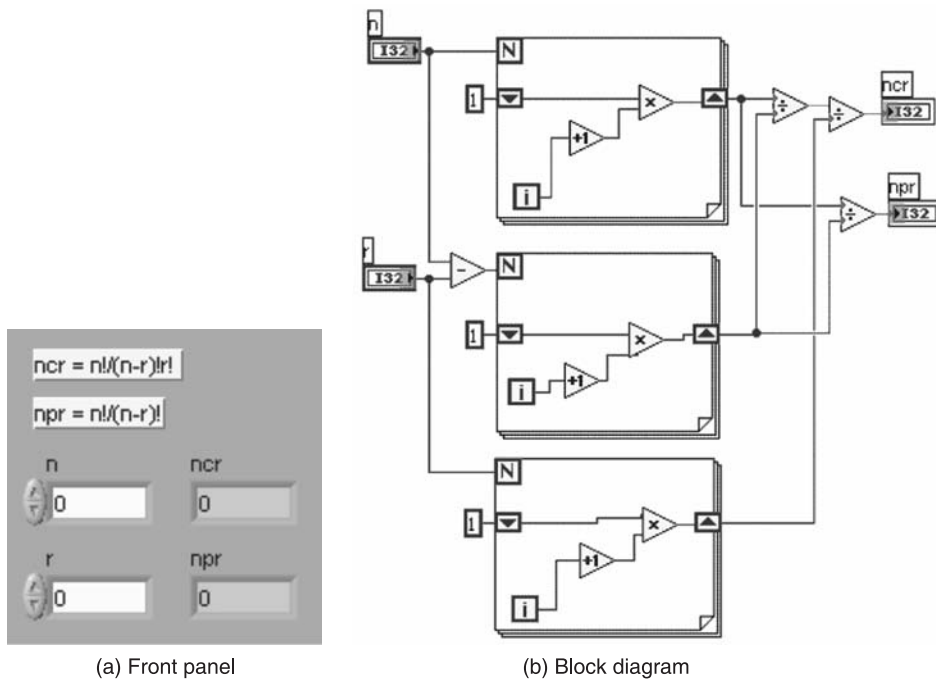

Figure P4.7
**Solution** The front panel and the block diagram to find  ${}^n C_r$  and  ${}^n P_r$  are shown in Figures P4.7(a) and P4.7(b).